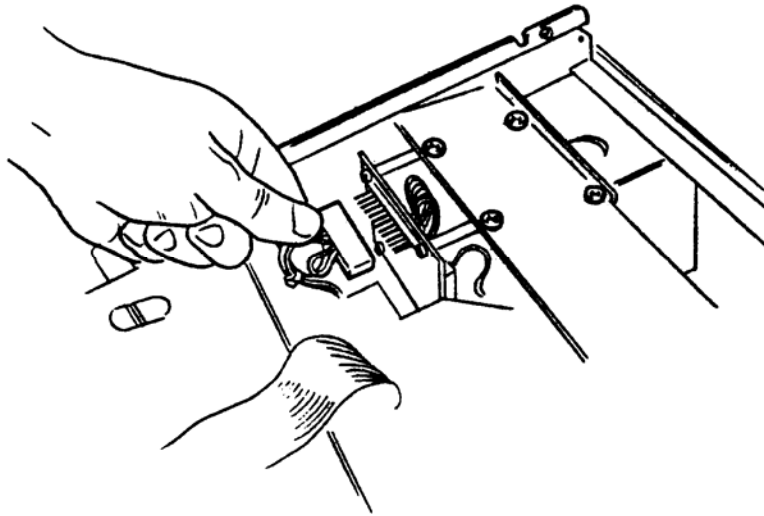
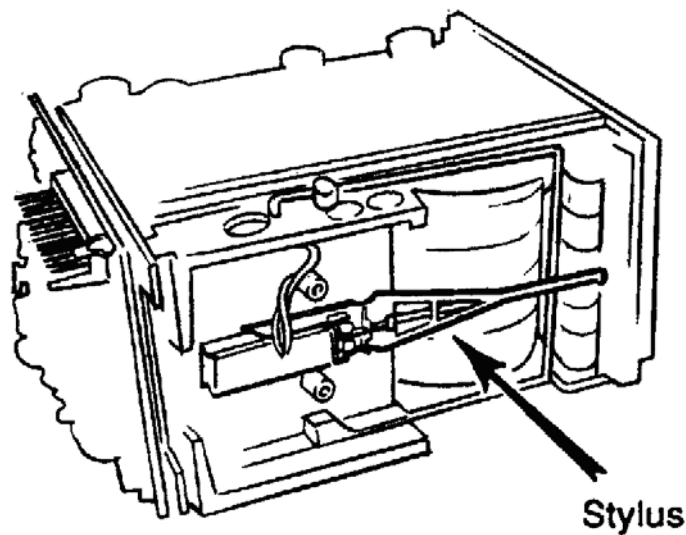

Figure 2-8. Chart recorder disconnect.
Figure 2-9. Location of stylus.
- (1) Disconnect chart recorder plug (figure 2-8).
- (2) Remove the four chassis mounting screws holding the chart recorder into the chassis brace.
- (3) Remove the chart recorder using special care to avoid any damage to the stylus on the center side of the chart recorder assembly (figure 2-9).